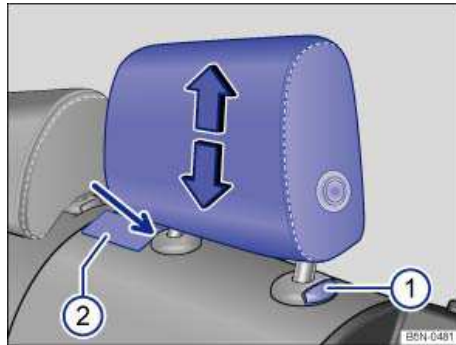

Fig. 50 Removing the rear head restraints.
- Slide a flat object, such as a plastic credit card, underneath the right side of the cap on the right-hand seat guide rod ⇒ fig. 50 (2) to unlock the head restraint.
- To release the left-hand guide rod, press button (1) in (towards guide rod) and hold.
- Pull the head restraint out completely while holding button (1).